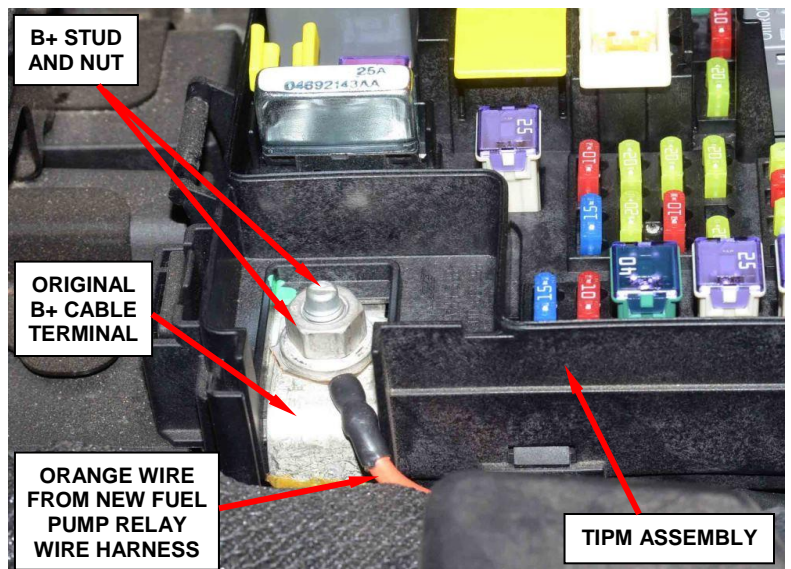

Figure 35 – B+ Electrical Connection
35. Connect the original B+ cable terminal to the TIPM B+ stud (Figure 35).
36. Connect the wire eyelet on the orange wire of the new fuel pump relay wire harness to the TIPM B+ stud (Figure 35).
37. Install the B+ cable terminal retaining nut. Tighten the nut to 14 ft. lbs. (19 N·m) (Figure 35).